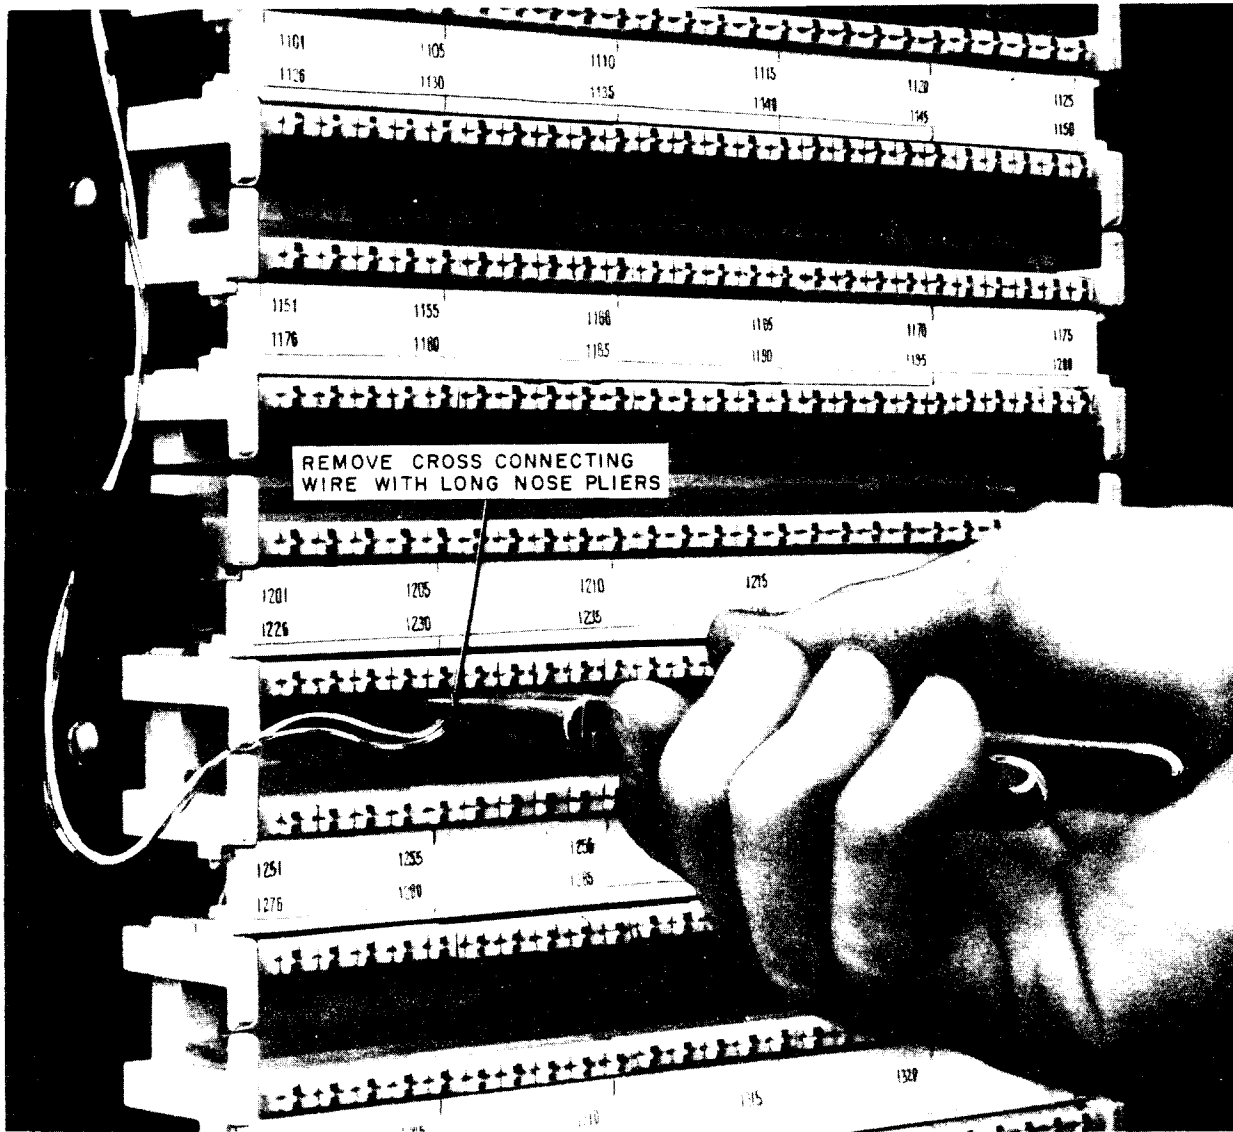

Fig. 11—Removing Cross-Connecting Wire
4.01 Remove and discard waterproof cap, then remove the cross-connecting wire from the 88-type connecting block with long-nose pliers as shown in Fig. 11. *To prevent excessive buildup of cross-connecting wire, remove the disconnected cross-connecting wire from the serving area interface. This helps to maintain good housekeeping.*